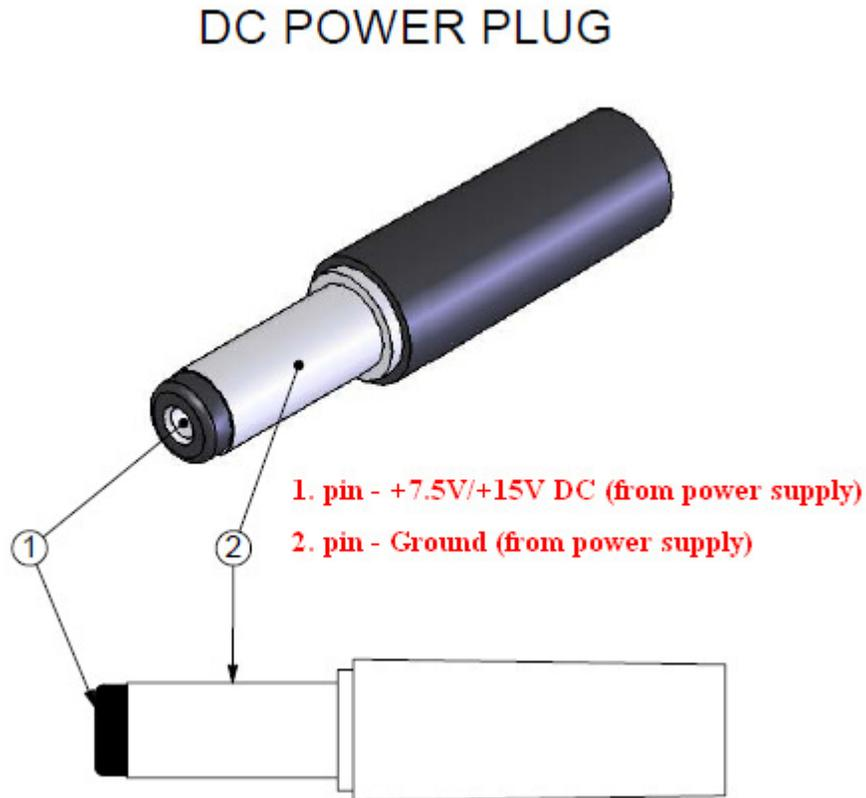

Figure 3 DC power plug pin-out
- 1.3** J8 connector (External Power Supply +7.5V/+15V) – it can be used to connect SDR to external power supply. External power supply required to give DC voltage from +7.5V up to +15V. The 2.5mmX5.5mm DC power Plug is needed for external power supply cable assembly. The external power supply can be used when AFEDRI SDR-Net receiver is used in Network mode. The pin-out for external power supply cable is shown on **Figure.3**